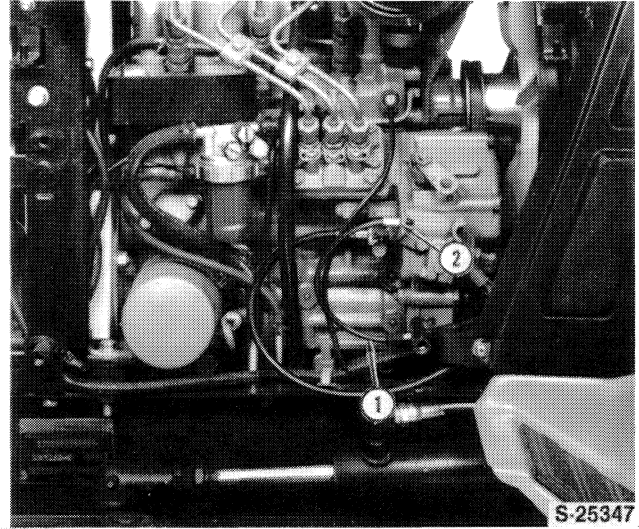

Figure 14
- 16. Remove the "E"-ring (2) and remove the throttle control cable (1) from the injection pump, Figure 14.